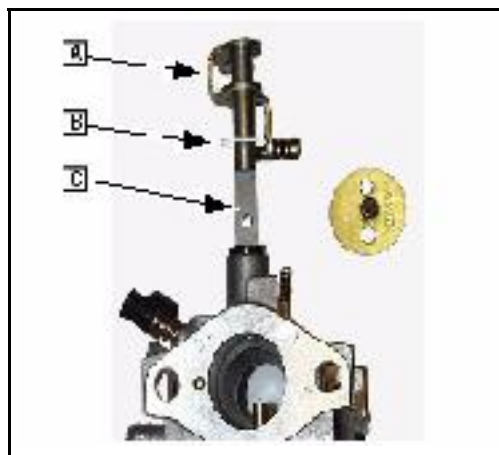

Fig. 36
1. Install plastic washer (B) on throttle shaft (A).
2. Install the throttle shaft in the carburetor body with flat ([C] Fig. 36) facing out.